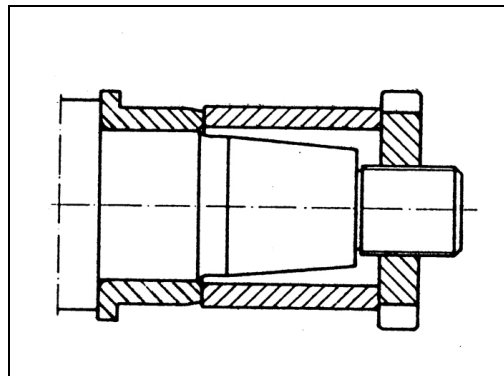

Fig.1
- (c) When heated, remove the race and place it in front of its housing, in such a way that it can be inserted quickly into the front supporting area (collar) without getting blocked. When handling hot races, wear asbestos gloves or use a clean, lint-free cloth, avoiding cotton insofar as possible. Immediately after sliding the race into its front support, lock it with the fixing nut. Tighten the nut strongly (Fig. 1). If this operation has been done correctly the front supporting collar shall not move in any direction.